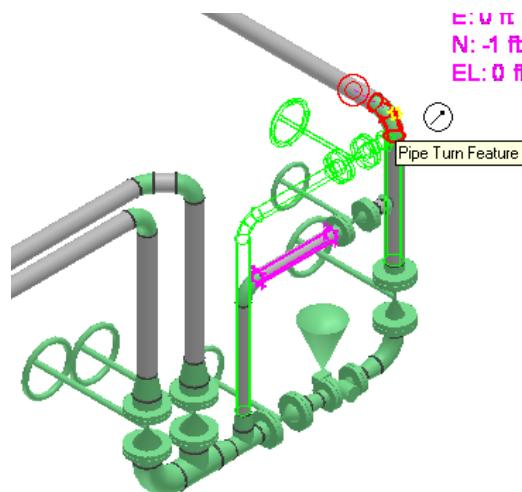

Figure 5: Pipe With Bordered Outline in the Graphic View
49. Select the **Pipe Straight Feature** to be moved. The selected pipe appears with bordered outline in the graphic view, as shown in Figure 5.